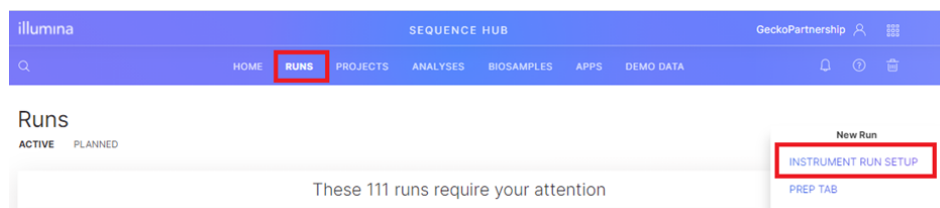

Figure 20: Instrument run setup
3. Create a run by selecting **Runs**, then **Run Planning** or **Instrument Run Setup** (Figure 20).